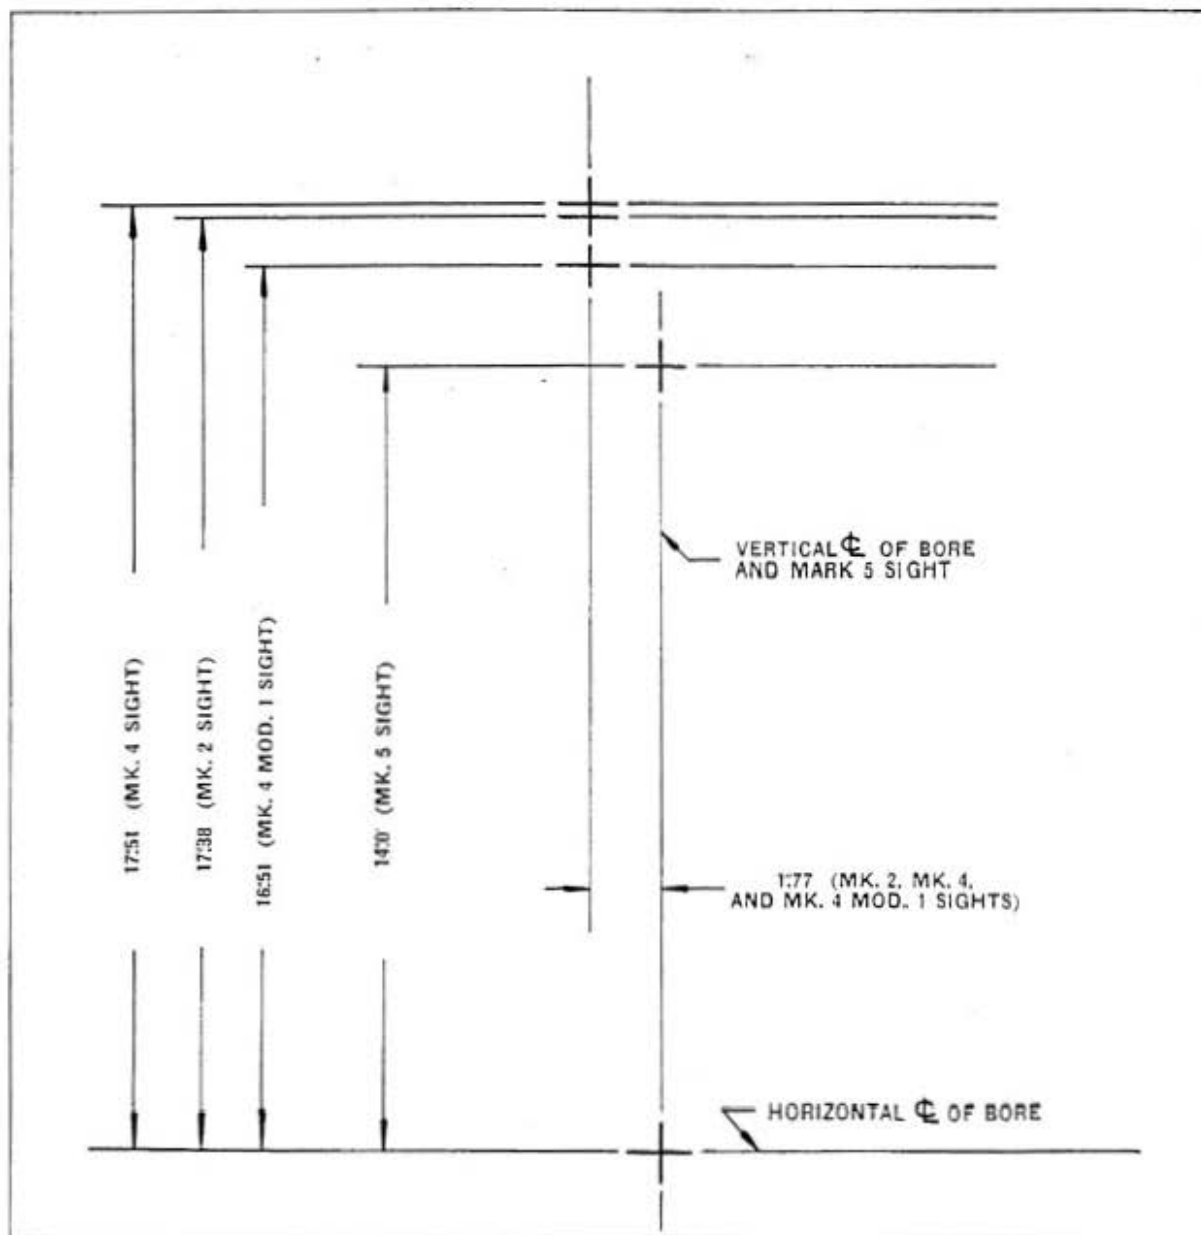

Figure 71—Bore Sight Target
- (a) Prepare a target or batten by ruling vertical and horizontal lines whose intersections represent the position of the line of sight with respect to the axis of the gun barrel. See Figure 71. As a starting point for the layout, the point where the axis of the bore intersects the target should be chosen. The other lines may then be laid out from this point.